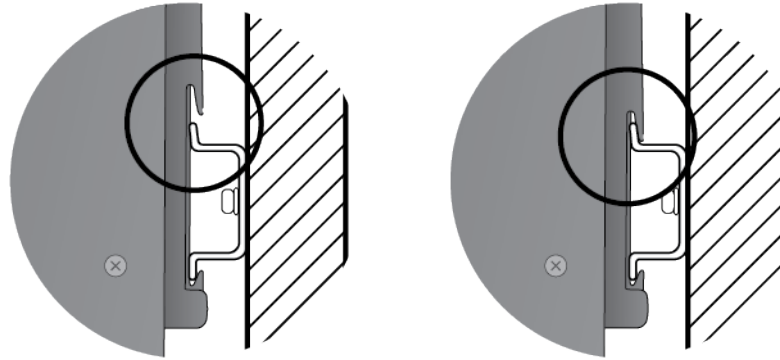

Figure 15. Installing the Switch on a DIN Rail - 3
1. Carefully lower the switch so that the top flange on the DIN rail slides into the top slot of the DIN rail bracket. Refer to Figure 15 on page 66.